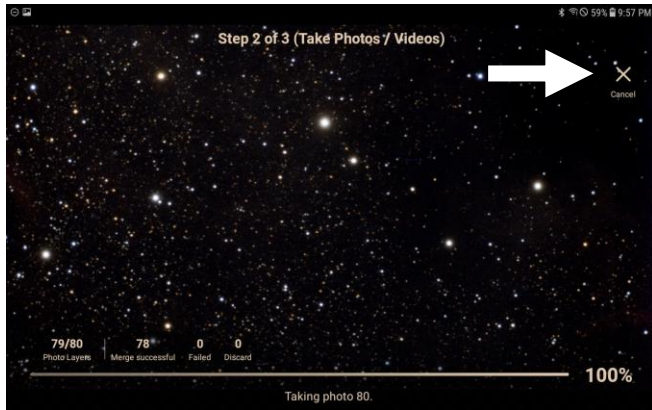

Fig. 4.13
**Finish:** You can tap Cancel at any time to stop the process. The final stacked image can be saved to your device's album. See Fig. 4.13. The raw image files can be downloaded using the MirroSky Desktop Client. See page 27 for more information.